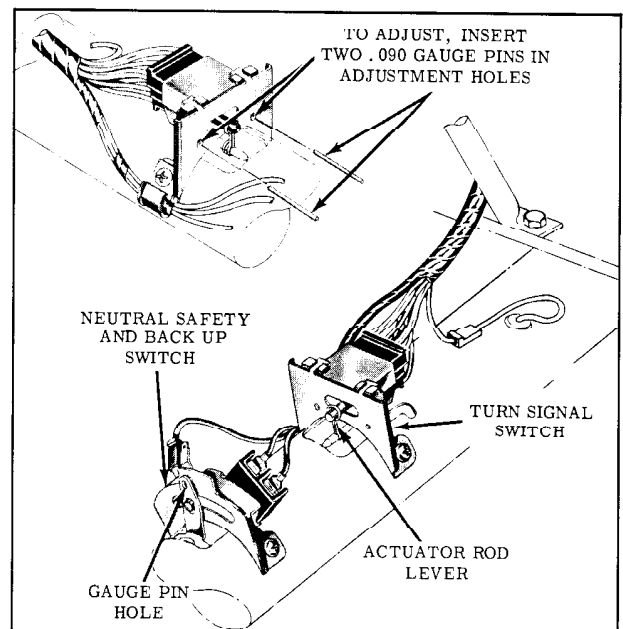

Fig. 13-94 Turn Signal Switch
1. Disconnect the harness plug connector from the switch. (Fig. 13-94)
1. Position switch on mast jacket with the actuator pin inserted into the actuator rod lever as shown in Fig. 13-94.
3. With the turn signal lever in the neutral position shift the switch back and forth on the mast jacket until 2 .090" pins can be inserted into the holes in the face of switch. (Fig. 13-94)
3. Shift switch back and forth on mast jacket until 2 .090" pins can be inserted into the holes in the face of the switch. (Fig. 13-94)
2. Position the switch on the mast jacket so that a .090" pin can be inserted through the hole in the switch arm and into the hole in the face of the switch. (Fig. 13-94)